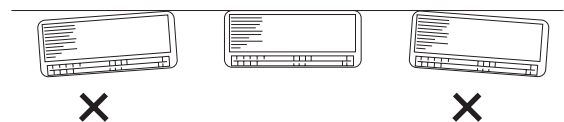

Fig. 14
- Double check with a carpenter's level or tape measure that the panel is level. This is important to install the unit properly. (Fig. 14)